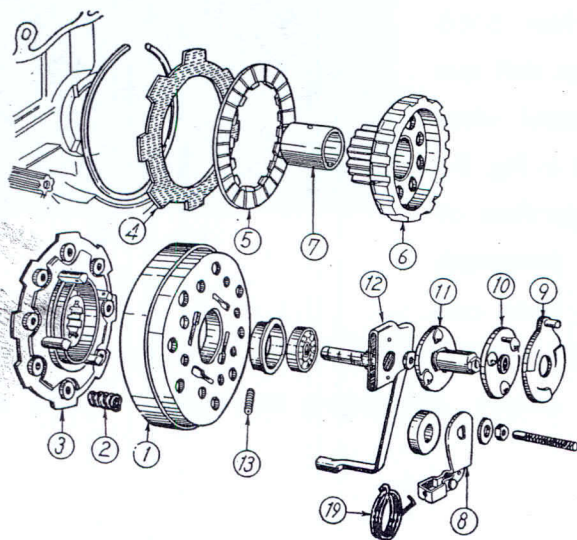
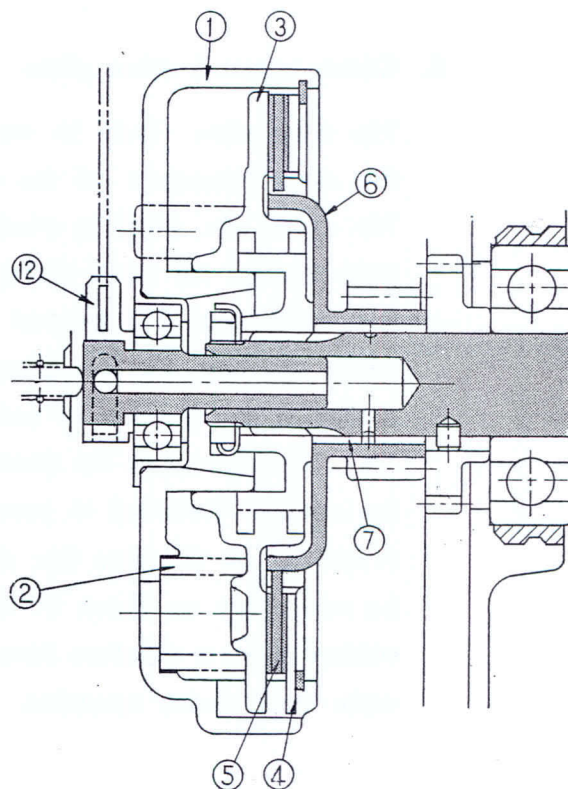

Fig. 3-14.
Fig. 3-15.
The clutch of Model 110 is wet single plate type. You will find clutch-outer ① by opening R-crank case cover as shown detail Figure 3-14 and cross sectional Figure 3-15.